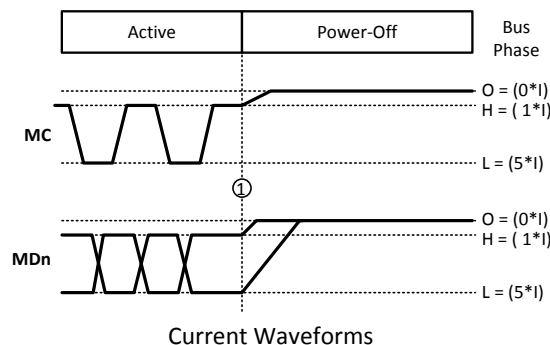

Figure 10. Bus Power Down Timing
(5) Specified functionally by the I_{DDZ} parameter. See also Figure 10.
In the OFF phase, MPL transmitters are turned off with zero current flowing on the MC and MDn lines. Figure 10 shows the transition of the MPL bus into the OFF phase. If an MPL line is driven to a logical Low (high current) when the OFF phase is entered it may temporarily pass through as a logical High (low current) before reaching the zero line current state. The link may be powered down by asserting both the SER's and DES's PD* input pins (Low) or by stopping the PCLK (DES dependant). This causes the devices to immediately put the link to the OFF Phase and internally enter a low power state.